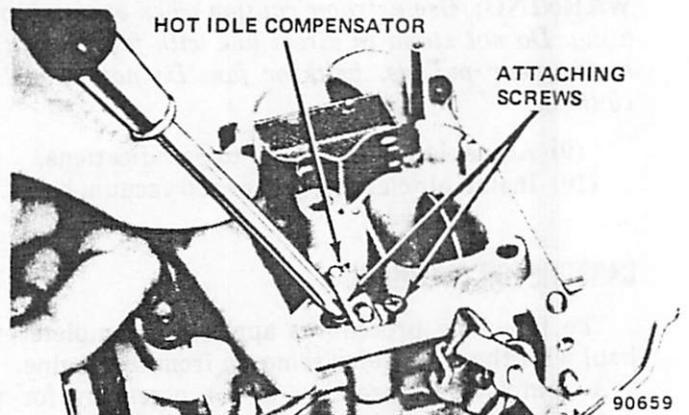

Fig. 1J-71 Carburetor Model E2SE—Hot Idle Compensator Valve Removal
(10) Remove six air horn-to-bowl attaching screws and lockwashers (fig. 1J-72).